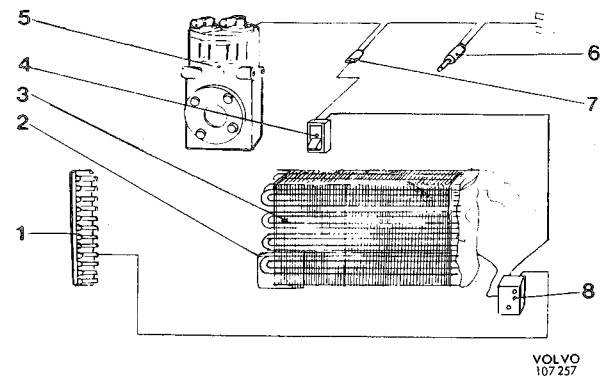

Fig. 8-46. Wiring diagram for air condition
The unit is started by means of the switch (4, Fig. 8-46) on the control panel inside the vehicle. When the current is switched on, the electromagnetic clutch and the compressor (5) start operating. A cut-out thermostat (8) is fitted at the evaporator in order to prevent it from being iced.
Belonging to the unit control system is the cut-out thermostat, the function of which is to prevent icing in the evaporator. The thermostat is placed at the evaporator and is provided with a capillary tube (2, Fig. 8-46) which is inserted in between the evaporator fins. When the vapour temperature has dropped to  $+3^{\circ}\text{C}$  ( $37^{\circ}\text{F}$ ), the capillary tube actuates the thermostat (8) so that current to the compressor clutch is broken off and the compressor stops. When the temperature of the evaporator again rises, this cuts in the current and the compressor starts working again.